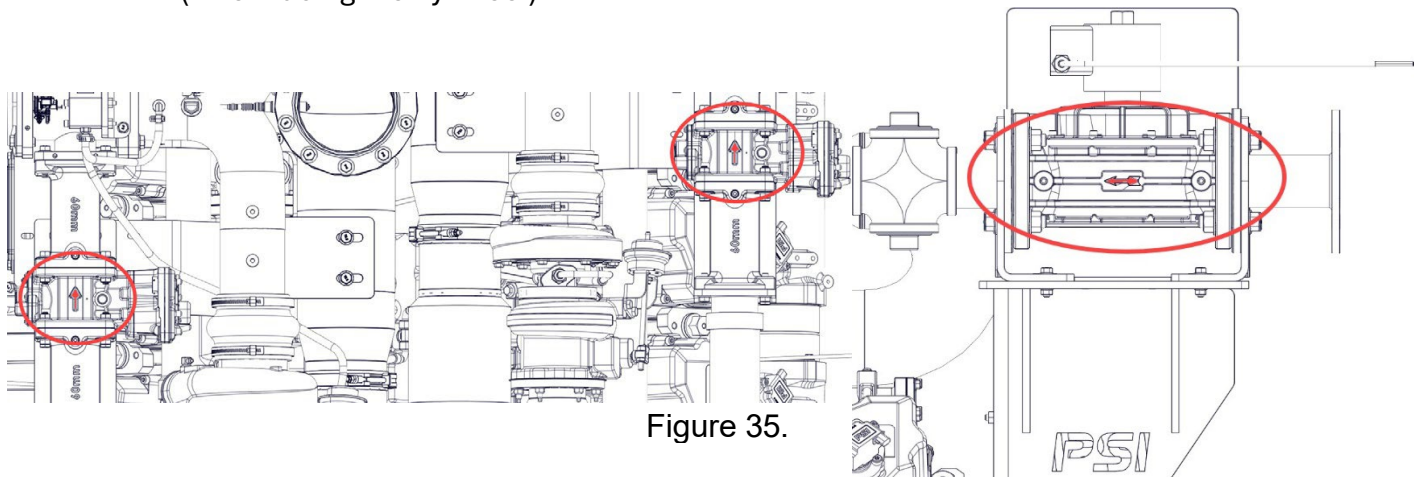

Figure 35.
1. Place the entire fuel system onto the fuel system brackets. Ensure the Mass Flow Gas Valve and Lock-Off Valve arrows (Figure 35) are facing the front of the engine (when facing the flywheel).